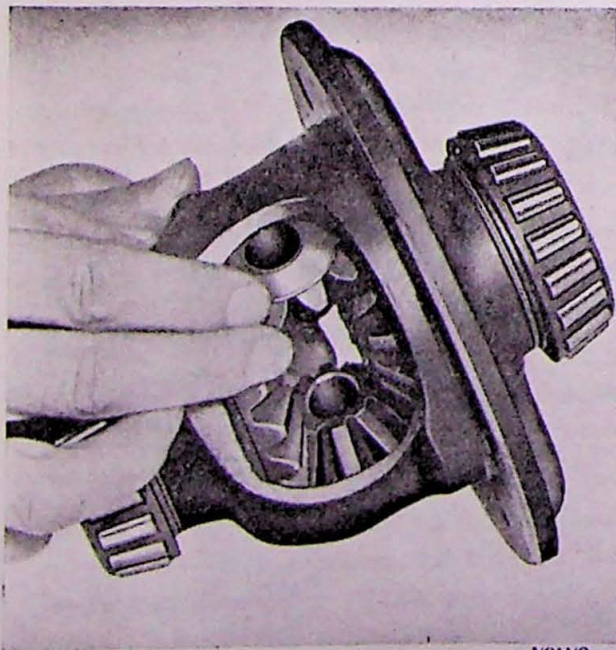
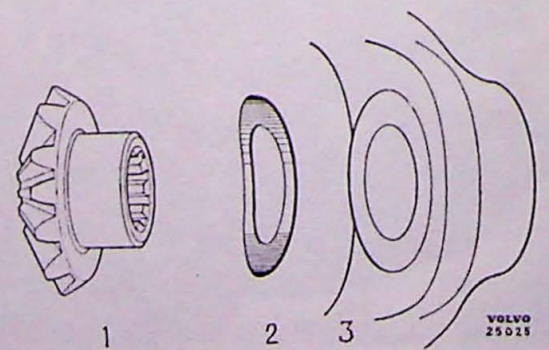

Fig. 5-16. Assembling the differential gears
Fig. 5-17. Fitting spring thrust washers
1. Place the differential side gears (6) with their thrust washer (5) in the differential case (4). Then "roll" in both the differential pinion gears (8) together with the domed thrust washers (11) (both gears at the same time), see Fig. 5-16.
2. Fit the thrust block (12) and drive in the shaft (10).
3. Check the differential unit. If there is any looseness, fit new thrust washers. The flat thrust washers (5) can be replaced with either oversize washers or spring thrust washers. Fit the spring thrust washers the right way round. The "back" should face the differential case, see Fig. 5-17. After checking and, if necessary replacing the washers, fit the lock pin (7).
4. Fit the ring gear (9). Make sure that the contact surfaces are clean and free from burr. Tighten the bolts to a torque of 5.5—7 kgm (40—50 lb.ft.).